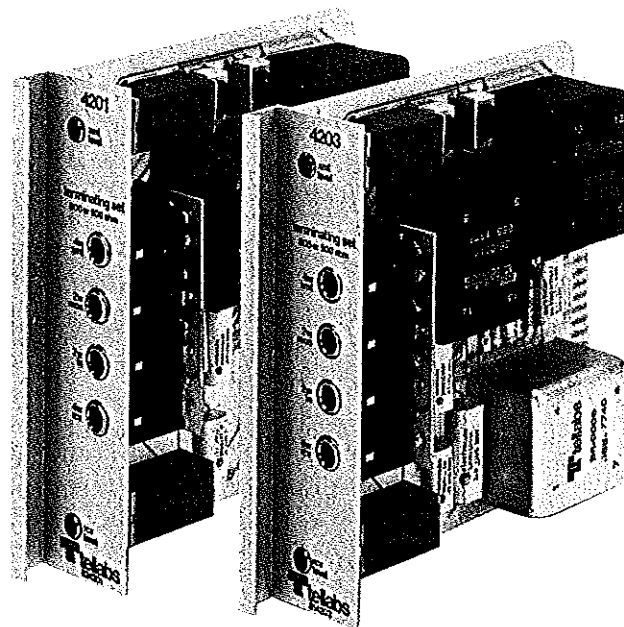

figure 1. 4201 and 4203 Terminating Sets
1.01 Tellabs' 4201 and 4203 Terminating Sets (figure 1) provide toll-grade interfacing between 2wire and 4wire voice-frequency transmission facilities. Both modules feature switchable 600 or 900-ohm impedance termination on the 2wire side, while 4wire impedance terminations are fixed at 600 ohms. In each case, the resistive 600 or 900-ohm component of the impedance at a particular port is in series with a  $2.15\mu\text{F}$  capacitive component.